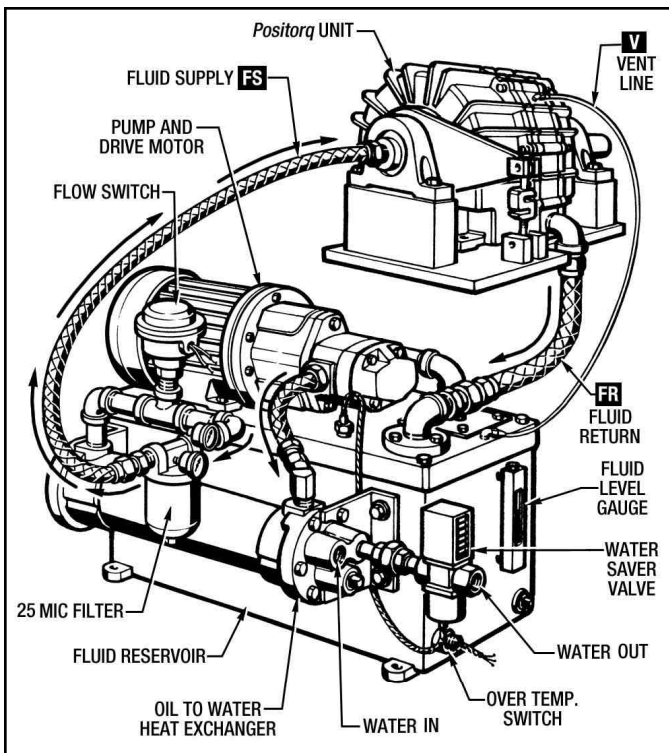

Figure 2.2 - Drive & Water Cooled FLCU Connecting Lines
1. Connect oil supply line from the cooling unit (oil outlet) to the drive (oil inlet). (See Figures 2.2 and 2.4) Hose must have a minimum recommended working pressure of 100 P.S.I.
2. Connect drain line from the drive (oil outlet) to the reservoir (oil inlet). (See Figures 2.2 and 2.4)
3. Connect vent line (when required) from the drive to the reservoir. This line should be elevated to insure that it does not fill with fluid so that air is free to flow back and forth between the drive and reservoir. (See Figures 2.2 and 2.4)